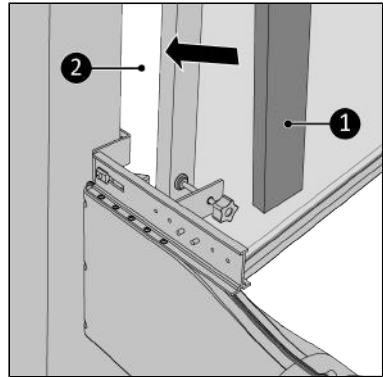

Figure 75.
17. Fill up the open spaces (Figure 75, pos. 1) with the delivered isolation foam (Figure 75, pos. 2), cut the foam if necessary\*.